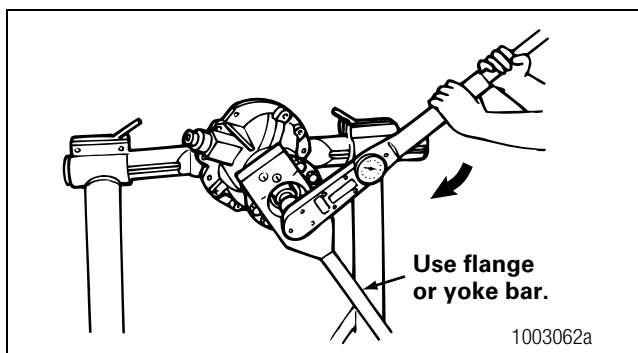

Figure 5.26
6. Install the drive pinion nut and washer onto the input pinion shaft and against the yoke collar. Tighten the nut against yoke collar to torque specifications. Figure 5.26. Refer to Section 8.